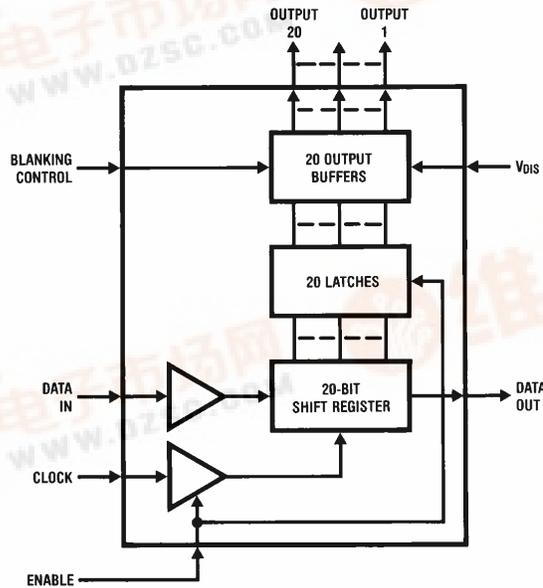

FIGURE 1
This product is specifically designed to drive multiplexed or non-multiplexed high voltage alphanumeric or dot matrix vacuum fluorescent (VF) displays. Character generation is done externally in the microprocessor, with a serial data path to the display driver. The MM58242 uses three signals, DATA IN, CLOCK and ENABLE, where ENABLE acts as an external load signal. Display blanking can be achieved by means of the BLANKING CONTROL input, and a logic '1' will turn off all sections of the display. A block diagram of the MM58242 is shown in *Figure 1*.